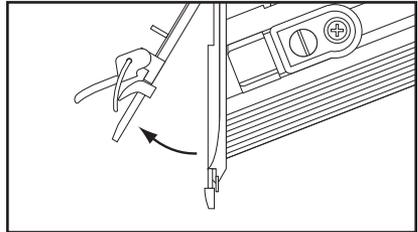

Figure 7. Removing driver guide cover.
4. Remove the driver guide cover (**Figure 7**).